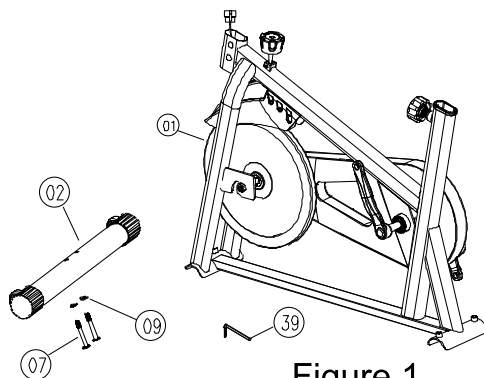

Figure 1
1. Secure the Main Frame Assembly (Part 01) to the Front Foot Tube Assembly (Part 02) using two M8×60 hex socket button head screws (Part 07) and two $\Phi 9 \times \Phi 16$ curved washers (Part 09), as shown in Figure 1.